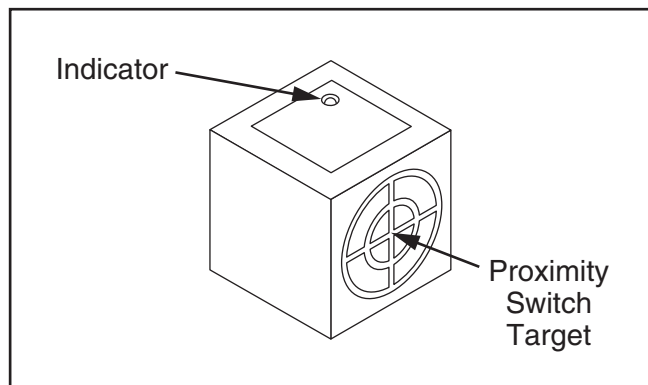

Figure 27. Typical proximity switch components.
13. **G0874 Only:** Touch X-axis proximity switch target (see **Figure 27**) with scrap piece of iron or steel.